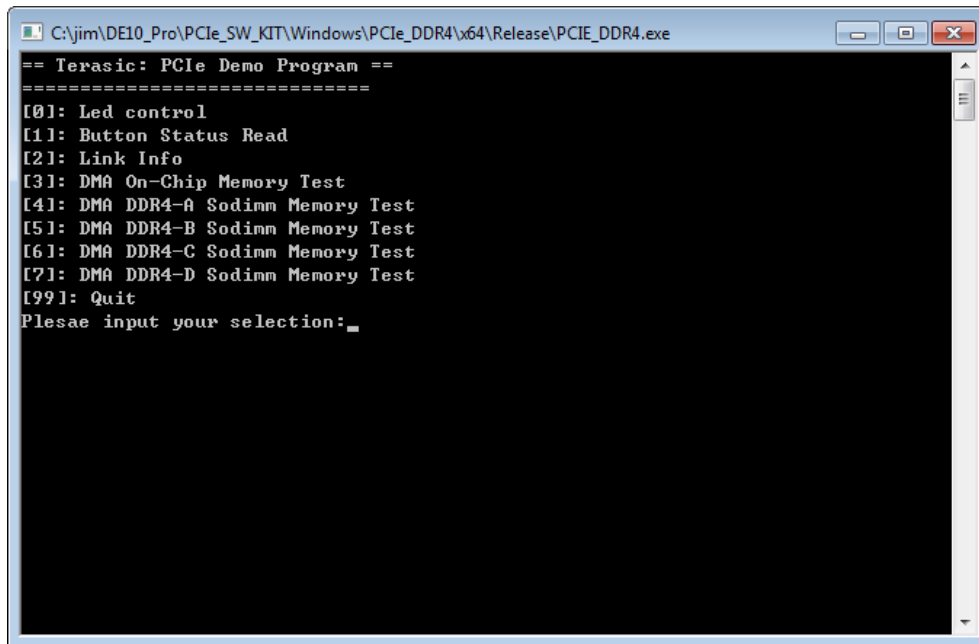

Figure 7-16 Screenshot of Program Menu
8. Go to windows_app folder, execute PCIE_DDR4.exe. A menu will appear as shown in **Figure 7-16**.